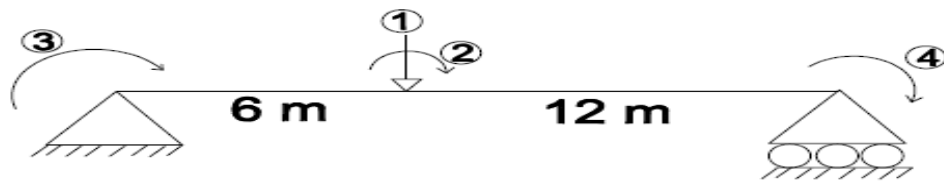

Figure 1
1. Develop the flexibility matrix for the given beam [Figure.1] with reference to the co-ordinates shown. EI is constant. [14 M]